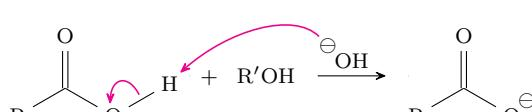

Figure 4.35: Side reaction under “basic esterification” conditions.
- Under basic conditions, we form an unreactive carboxylate (Figure 4.35).